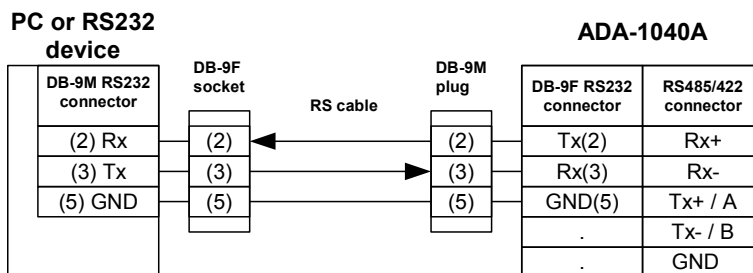

Fig.4. ADA-1040A connection to PC or device with RS232 by the use of cable
- RS232 port of computer or device, should make a cable accordance to Fig.4